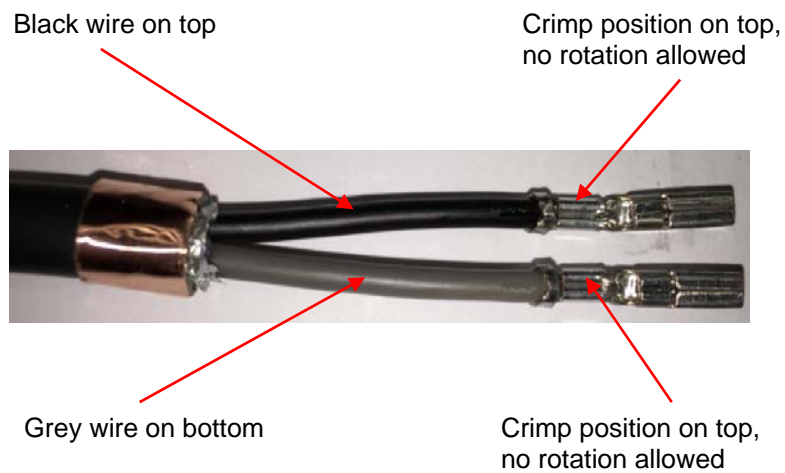

Figure 16
- Crimp the contacts (Fig 16) (By using 10135701-001, Octis Power Profile Crimping Tool)